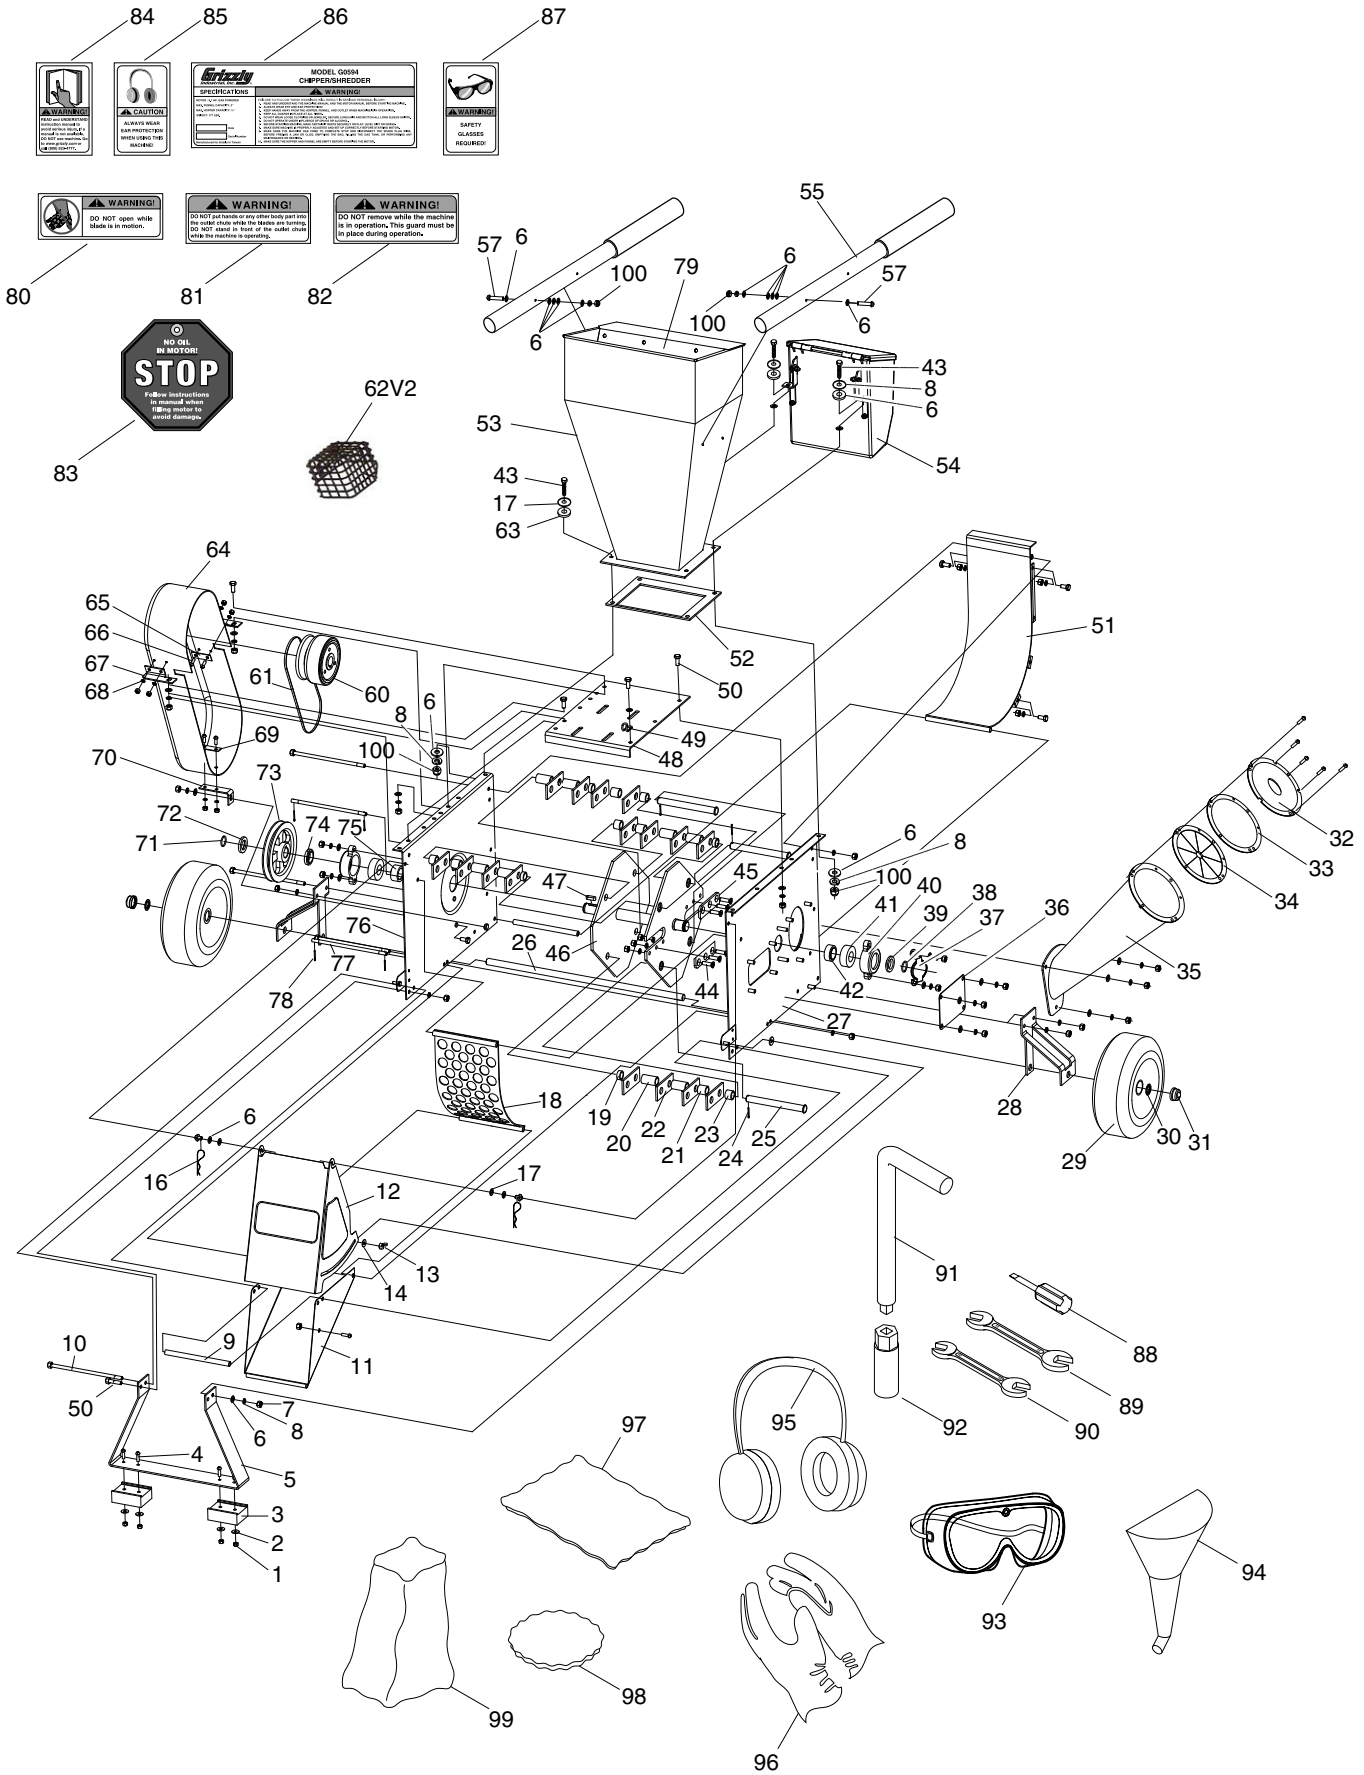

**Figure 12.** Replacing V-belt.
2. Remove the pulley cover (photo inset in **Figure 12**).
4. Roll the belt off of the pulleys (see **Figure 12**), then install the new belt.